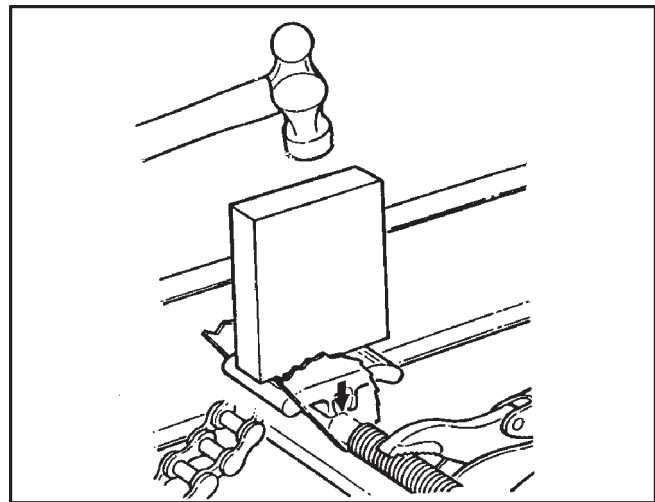

Figure 7-14. Hammering Slider Block into place.
5. Using a piece of wood (or similar material) pressed against the top of the slider block, carefully hammer the piece of wood so the slider block snaps onto the cam assembly shaft as shown in Figure 7-14.